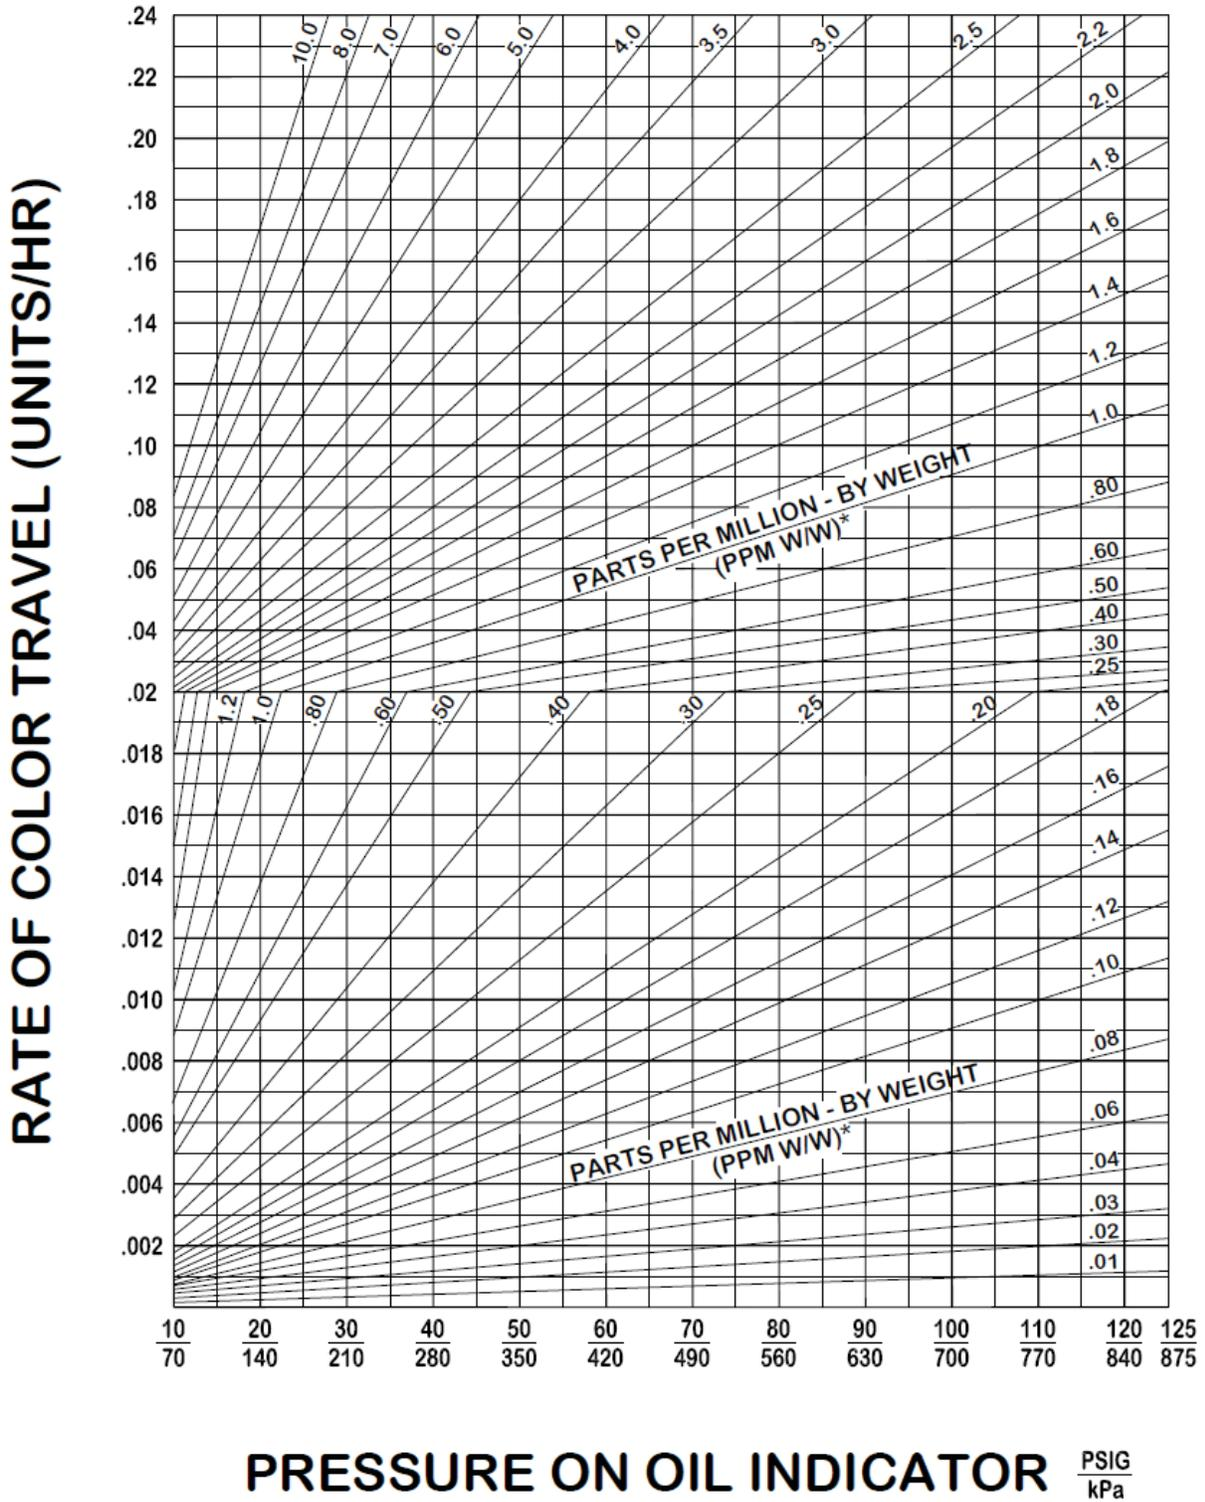

Fig. B-2. Conversion Chart for Oil Indication
When the needle valve of the oil indicator is open, filtered instrument air will flow through the calibrated plastic tube. Any oil present in the air will then carry a red oil soluble dye up the tube, coloring a white material in the tube. The rate of color travel will be proportional to the amount of oil present. The parts per million (ppm) value of oil entrained in the air can be determined using the conversion chart below (Fig. B-2). After use the needle valve should be closed and left in line and the cartridge removed. At the time of the next test, a replacement cartridge will need to be installed on the needle valve fitting.
2. Using the chart in Fig B-2, find the Rate of Color travel on the left side of the chart and the pressure on the bottom. The point where Rate and Pressure intersect is the parts per million (ppm) of oil concentration.